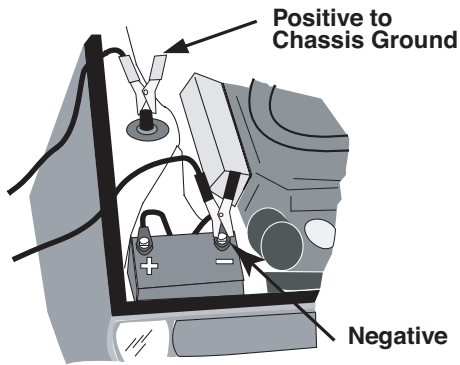

Figure B.4. Positive Ground
2. Connect the NEGATIVE (black) clamp from the battery charger to a heavy gauge metal part of the vehicle chassis or engine block away from the battery. **DO NOT** connect the NEGATIVE (N) (black) charger clamp to the NEGATIVE battery terminal, carburetor, fuel lines, or sheet metal body parts.
b. Positive ground vehicles (see Figure B.4)